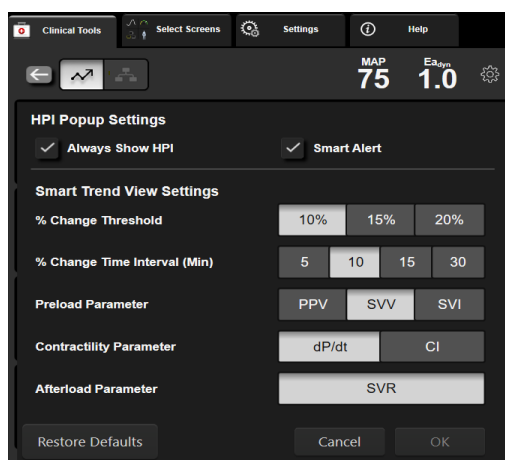

Figure 14-10 HPI secondary screen – smart trend view settings
- 3 Disable the **Always Display HPI** option button. See figure 14-10 on page 270.